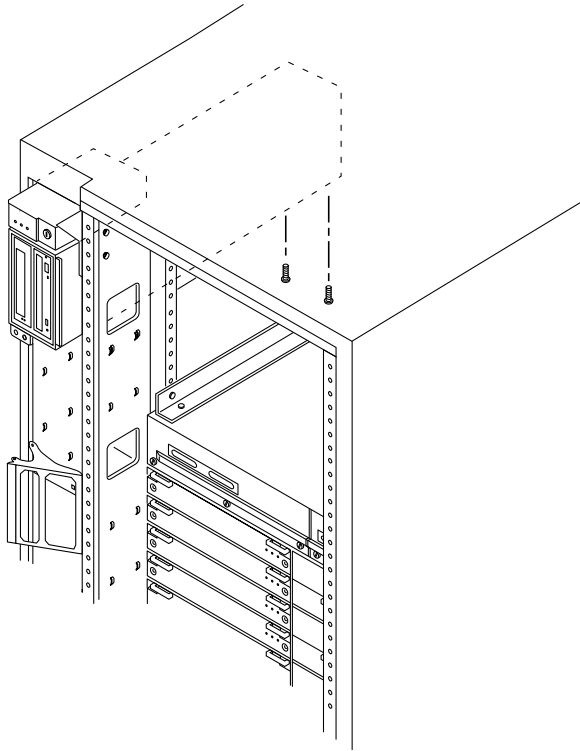

FIGURE E-7 Removing the Two Screws that Attach the media tray to the Flange
- 6. Remove the two screws that attach the media tray to the flange on the side of the fan tray shelf (FIGURE E-7).**
- 7. Replace the two screws that attach the media tray to the flange on the bottom of the fan tray shelf (FIGURE E-7).**